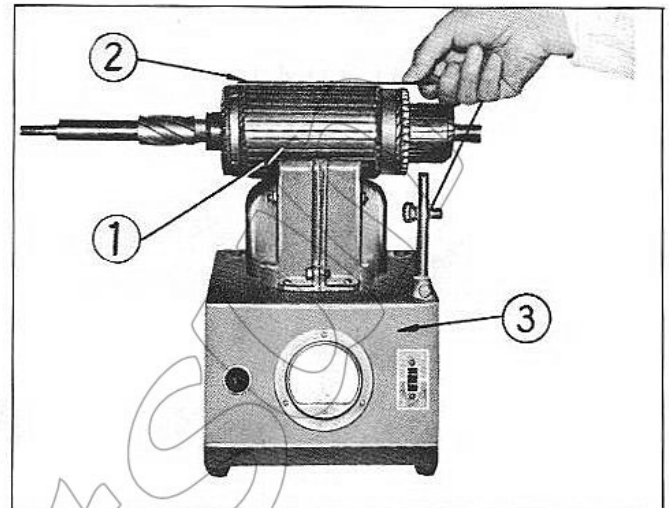

Fig. EE-45 Growler tester
Use growler ③ to check for coil shorts. As shown in the Figure EE-45, place the armature on the core of the AC electromagnet of the growler. While turning the armature by hand, place a thin strip of iron over the core grooves in turn. The iron strip should be attracted. If vibration (buzzing) occurs, the corresponding portion is shorted. Replace the armature assembly.